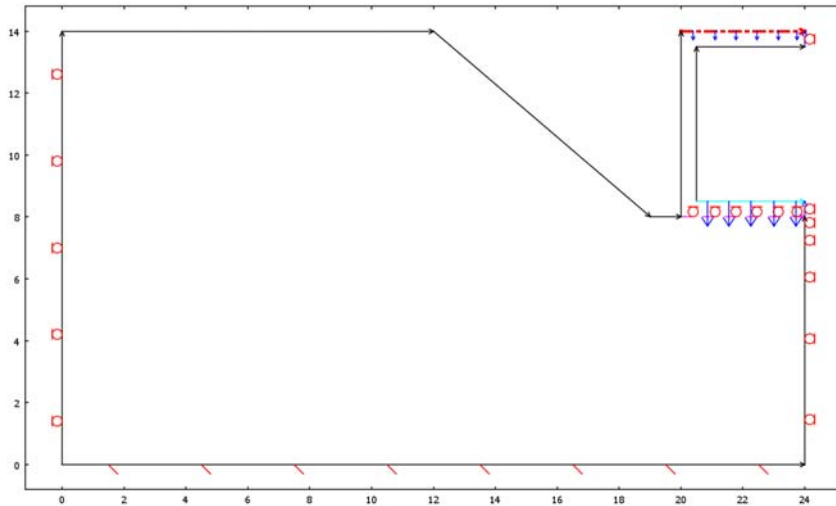

Figure 4-4: Boundary constraints and loads.
- The left vertical boundary is assumed to be perfectly smooth and rigid. This is modeled by applying a constraint only in the horizontal direction while allowing movement in the vertical direction (see also Figure 4-4).